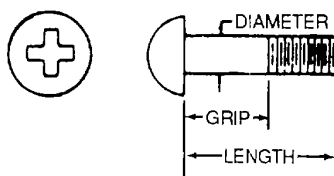

Figure 2-36. Structural Screw
- (1) Measure flat-head screws from top of head to end of thread.
- (2) Measure all other screws from bottom of end of thread as shown in figure 2-36.
(2) *Brazier-head screws*. The NAS220 through NAS235 brazier-head screws, as shown in figure 2-36, have the same characteristics as MS24694 flat-head screws, except for the difference in the heads. The NAS80 (100-degree) close tolerance countersunk bolt is similar to the MS24694 (100-degree) flat-head screw.